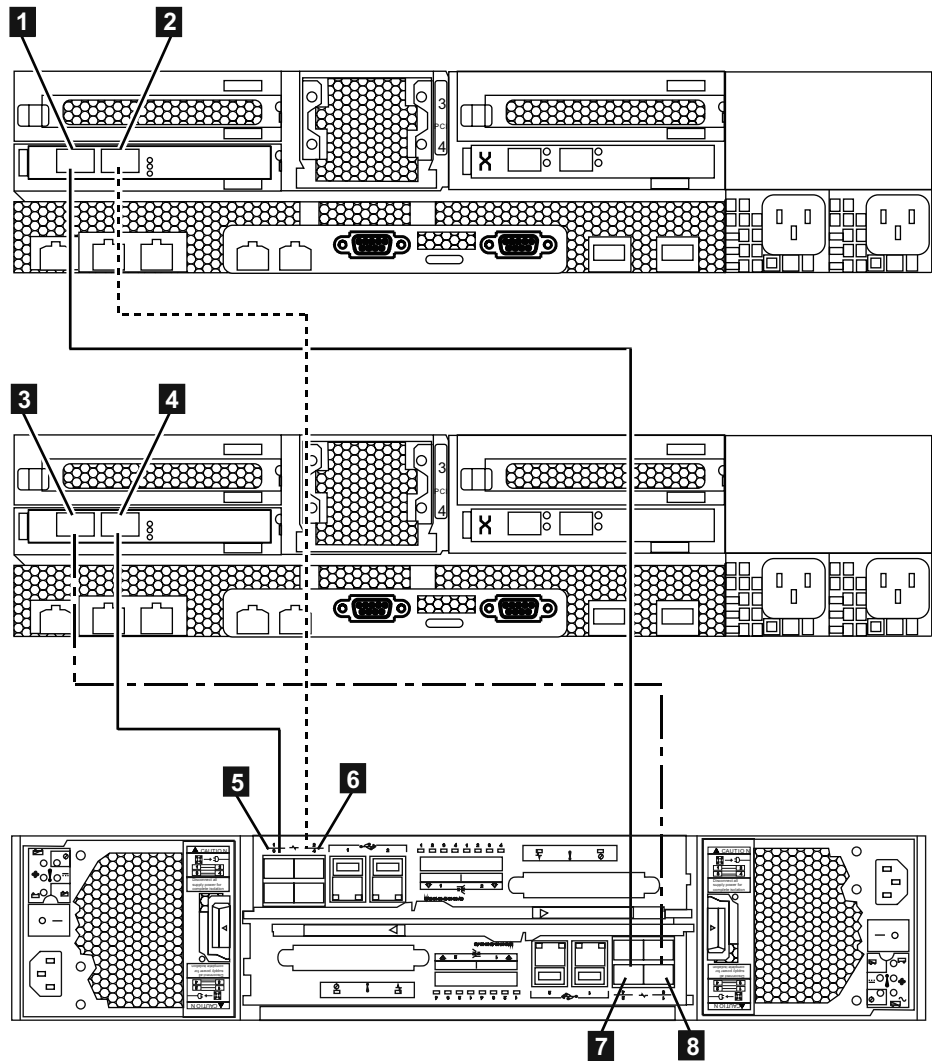

Figure 36. Diagram showing how to connect the file modules to the control enclosure using Fibre Channel cables. Refer to previous table.
- Before continuing, make sure that you have connected the Fibre Channel cabling as shown in Figure 36 on page 33 to ensure proper redundancy. Incorrect cabling may result in a loss of service during system maintenance procedures.